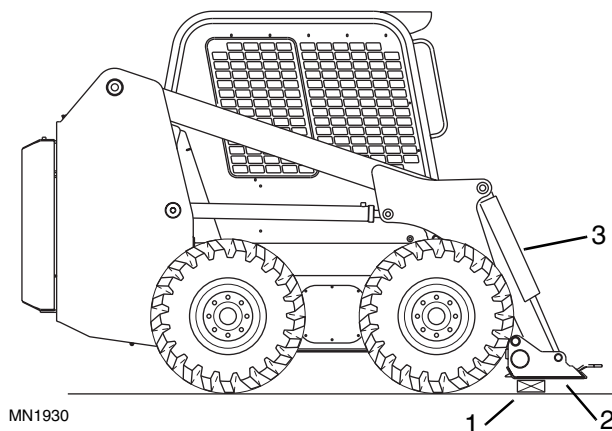

Figure 4-49 Quick Attach Support
2. Raise the loader arm slightly and place blocking (Fig. 4-49, 1) under the bottom of the quick attach frame.
3. Tilt the quick attach forward until the front face of the frame (Fig. 4-49, 2) rests level with the ground.
4. Lower the loader arms until the rear of the quick attach frame is supported by the blocking (Fig. 4-49, 1).
9. Disconnect the hydraulic hoses from the rod and base end ports of both cylinders (Fig. 4-49, 3). Plug or cap the hoses and cylinder ports.